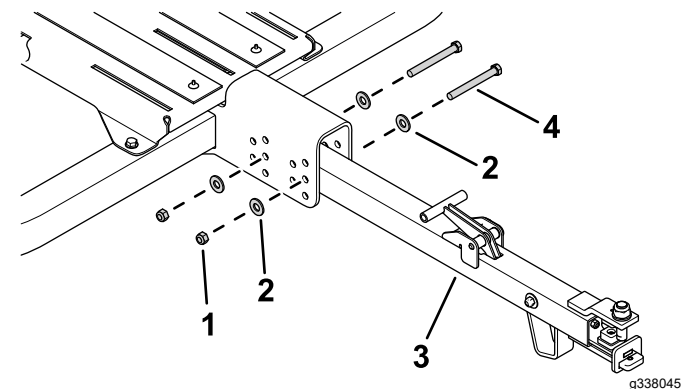

Figure 23
- 1. Use 2 bolts (7/16 inch), 4 washers, and 2 locknuts to secure the trailer tongue to the main frame (Figure 23).